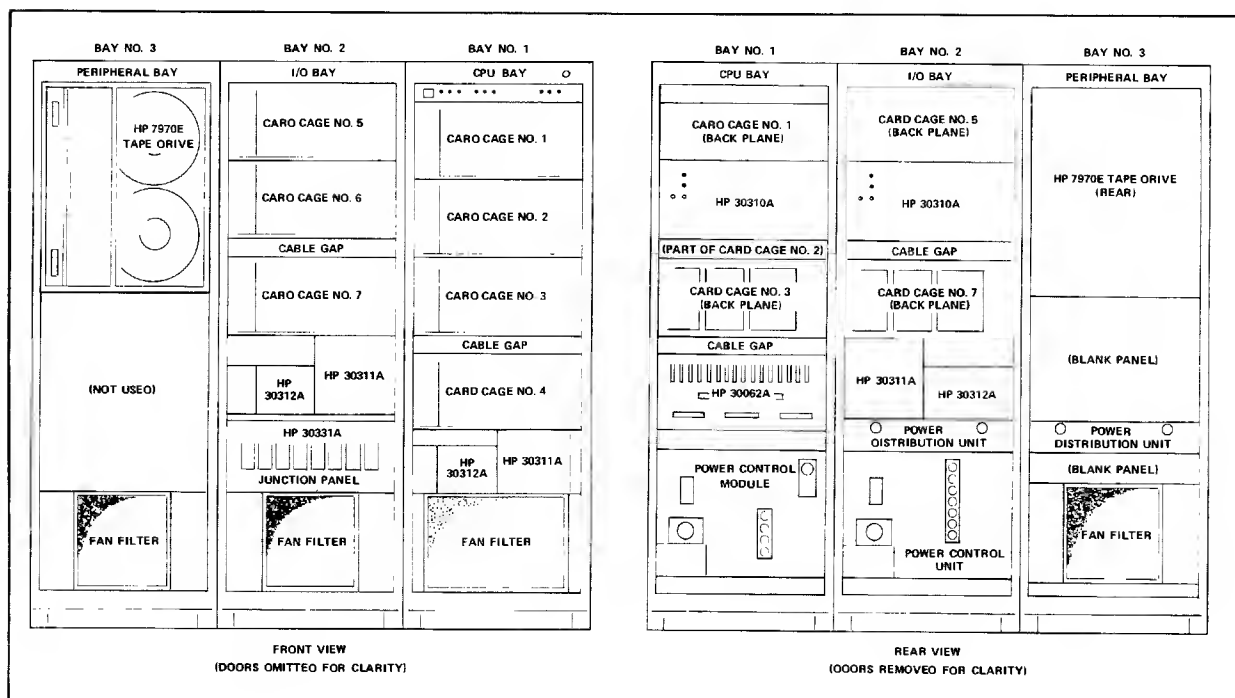

Figure 2-1. HP 3000 Series II Model 9 Equipment Bays
- three Equipment Bays, containing the main-frame card cages and power supplies (see figure 2-1);
**2-12. ELECTRICAL.** Looking at the equipment bays from the rear (see figures 2-1 and 2-2), note that a PCM is at the bottom of the left-most HP 29402B Cabinet. The PCU is located at the bottom of the next equipment bay to the right. Finally, note there is a PDU in each equipment bay other than the first bay. In the following instructions and in table 2-1, the cabinets are numbered 1 through 3, or 1 through 2, from left-to-right as seen from the rear. If the system you are installing is a special order, there may be more cabinets that would be numbered greater than 3, from left-to-right, for reference in table 2-1.